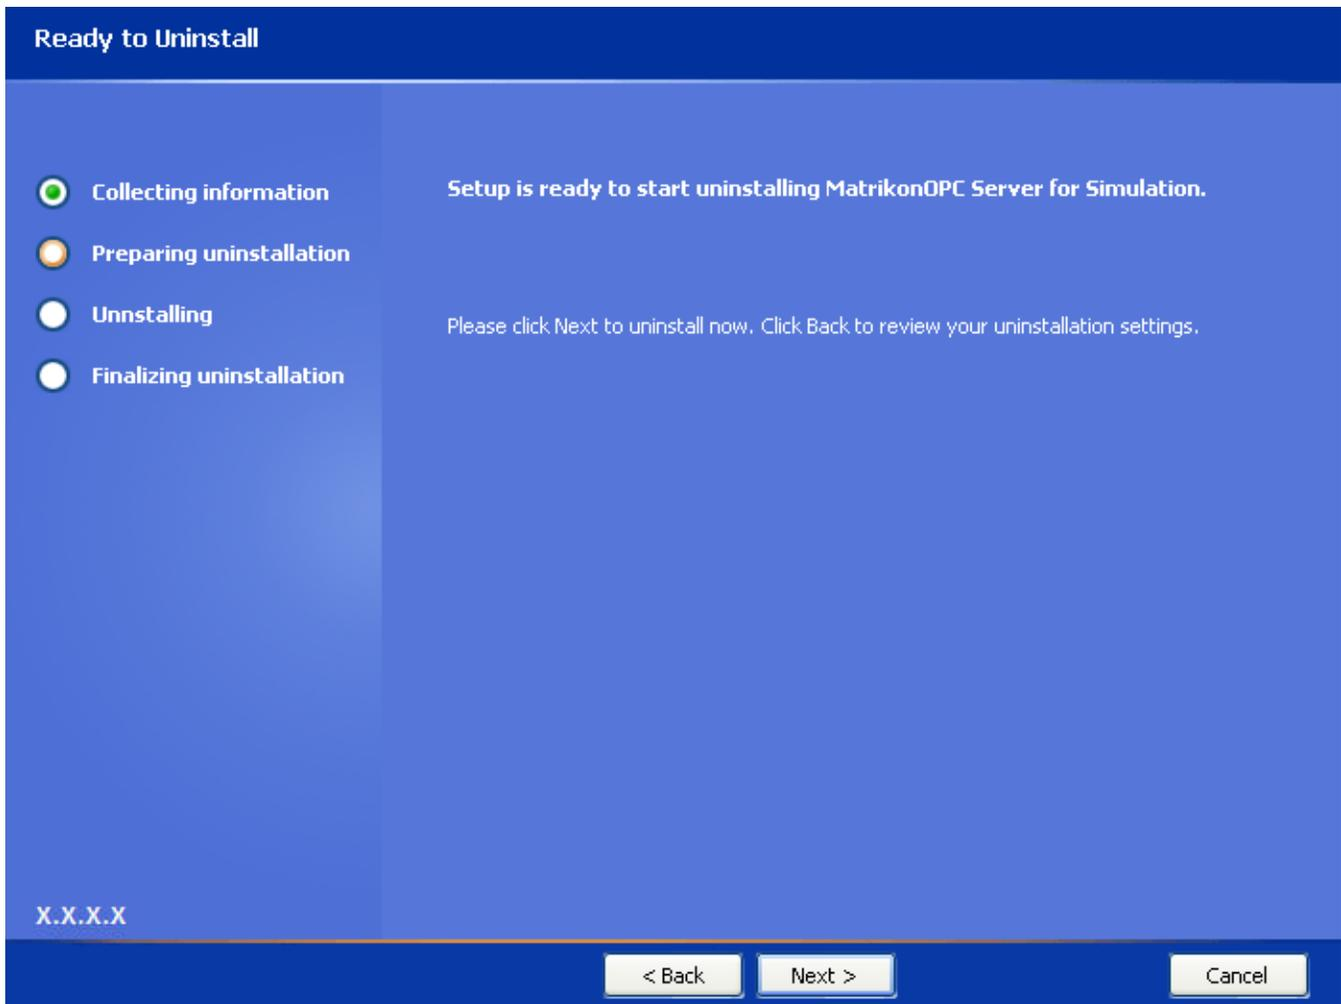

Figure 33 - Ready to Uninstall Window
8. Click on the **Next** button. The **Ready to Uninstall** window (Figure 33) is displayed.